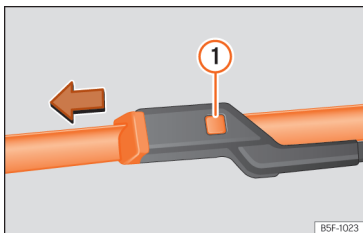

Fig. 191 Changing the windscreen wiper blades
- Press and hold release button >>> Fig. 191 ① and pull gently on the wiper blade in the direction of the arrow.